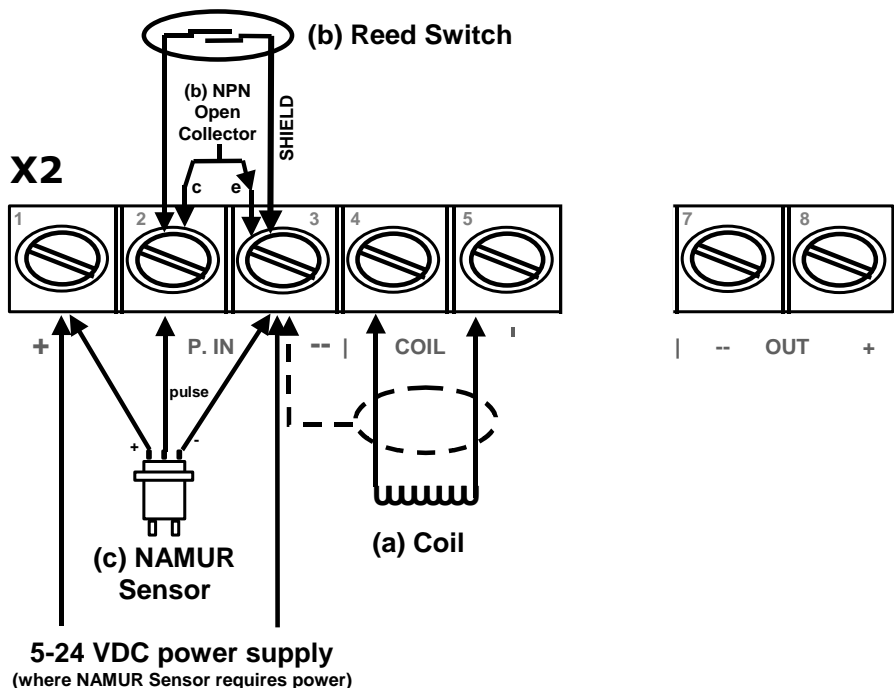

Figure 5. Connection of Coil, Reed or Pulse/NAMUR Inputs via Connector X2.
The ME5-F will accept a coil input from a flowmeter, through the cable entry to the internal PCB Connector X2 as shown in Figure 5-a below. Note the connection of the shielded cable.
The ME5-F will accept a Reed Switch input, or an NPN Open Collector input, from a flowmeter through the cable entry to the internal PCB Connector X2 as shown in Figure 5-b below.
The ME5-F will accept a Pulse/NAMUR input from a flowmeter, through the cable entry to the internal PCB Connector X2 as shown in Figure 5-c below.
- a 5-24VDC supply to internal PCB Connector X2, as shown in Figure 5 below; or